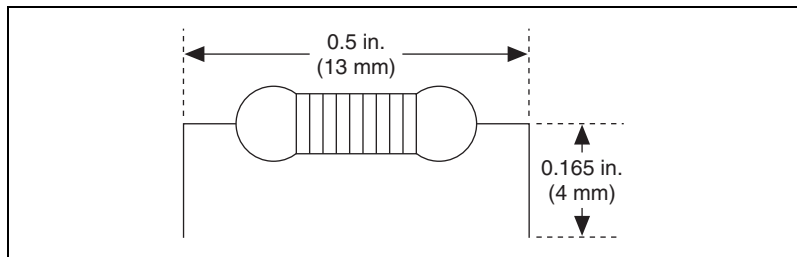

Figure C-8. Preparing Lead Wires of Replacement Resistors
2. Cut and bend the lead wires of the resistors you want to install. Refer to Figure C-8.